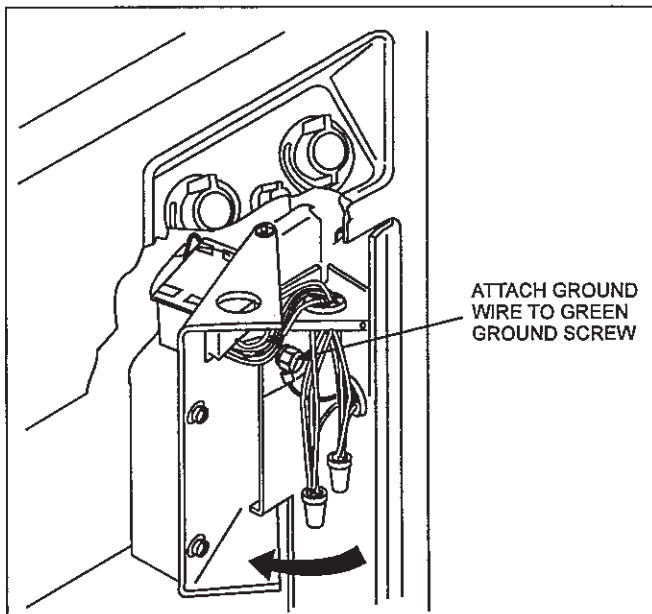

Figure 8. Field Wiring Connections (LLD).
2. Connect the wires from the source to the leads on the right side of the heater in the space behind the ignition control (see Figure 8).